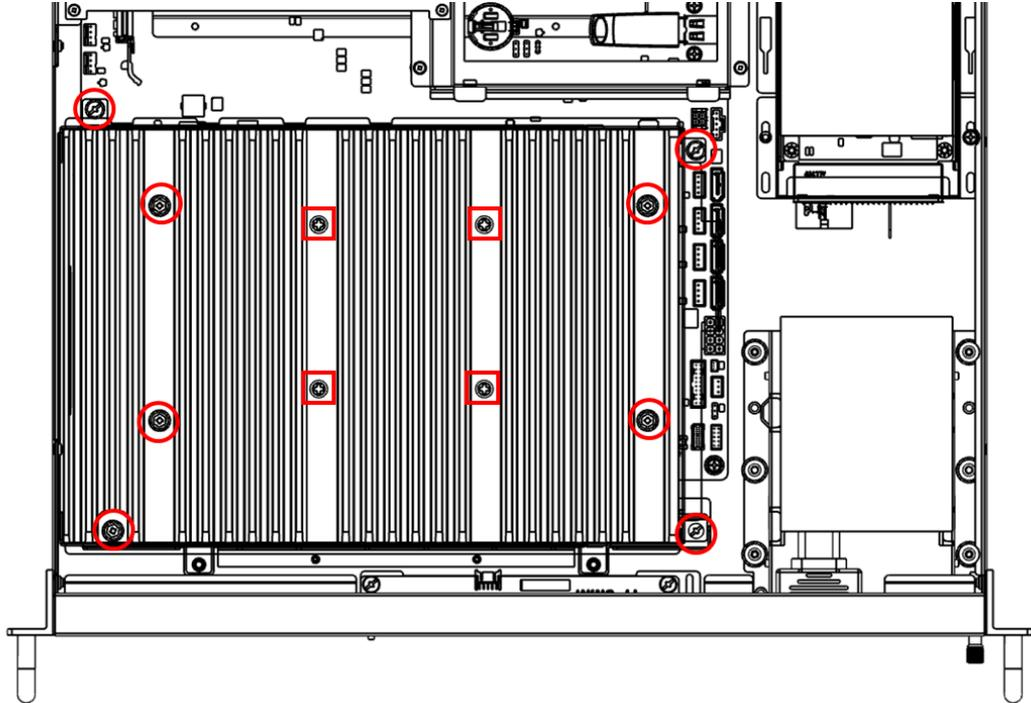

Figure 2.18 Heatsink screws Positions
- Carefully reinstall the heatsink. Tighten the screws in the order shown in Figure 2.18, torque = 5.5 kgf.